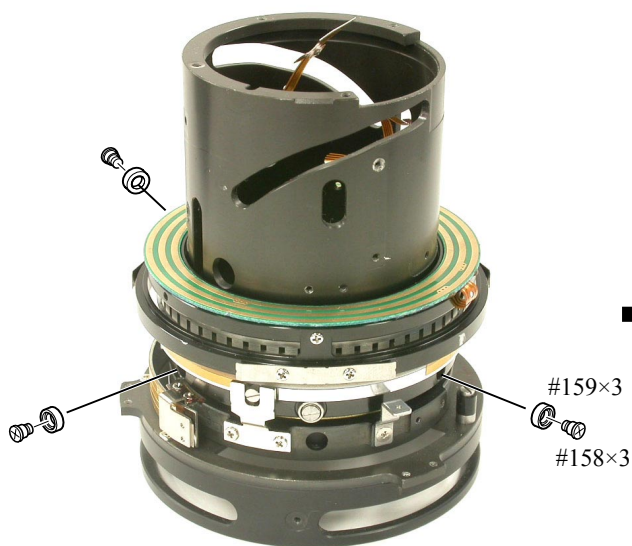

Fig.2
- Take out 3 screws (#158) and 3 rollers (#159). (ref. Fig.2)